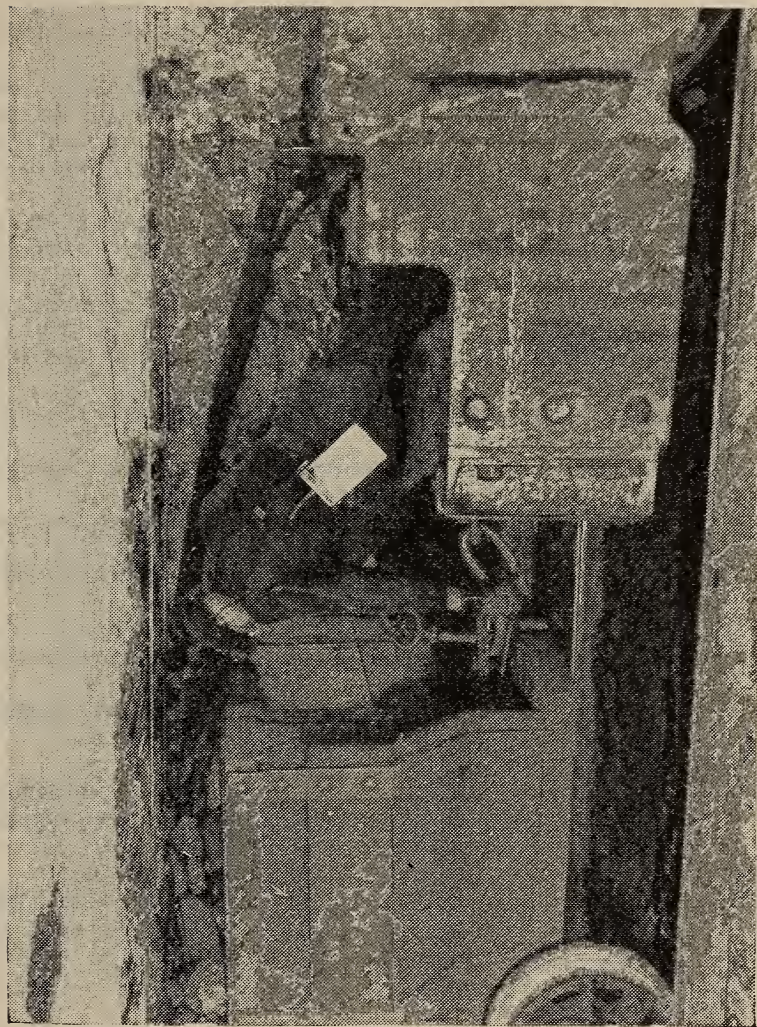

FIGURE 24.—The locomotive should be brought to a full stop before it is coupled to a car or trip.
- A. By coupling when not in motion. (See fig. 24.)